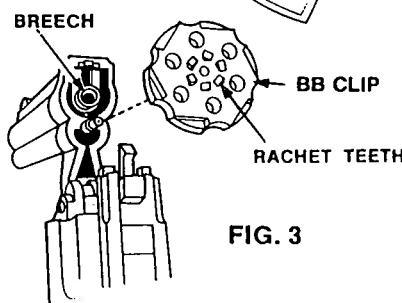

FIG. 3
- D. Replace BB Clip (ratchet teeth up) on Barrel, close Barrel. Fig. 3. Make sure the Barrel Latch has locked.